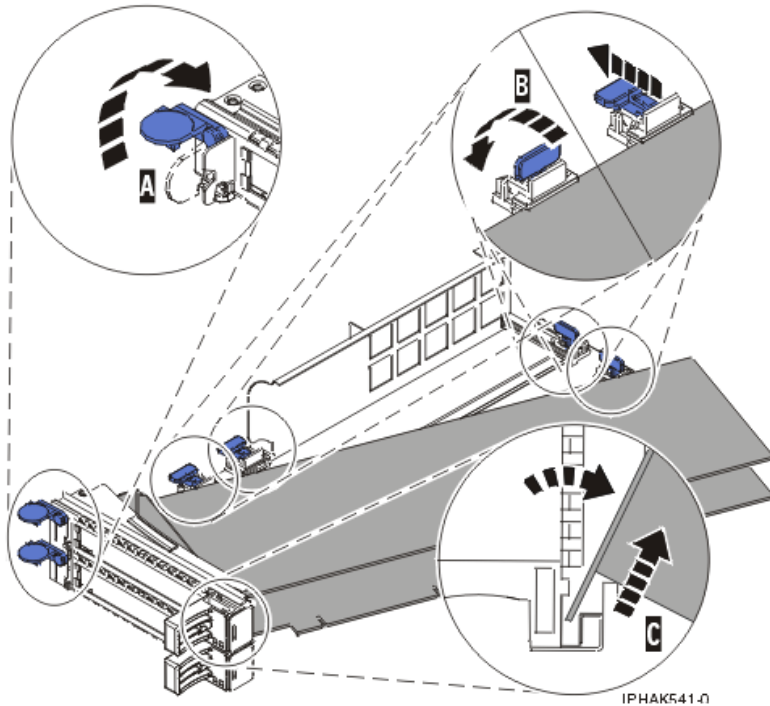

Figure 45. Adapter removed from the PCI adapter cassette
- a. Unlock the adapter retainers by rotating the retainer clip A into the horizontal position. See Figure 45 on page 64.